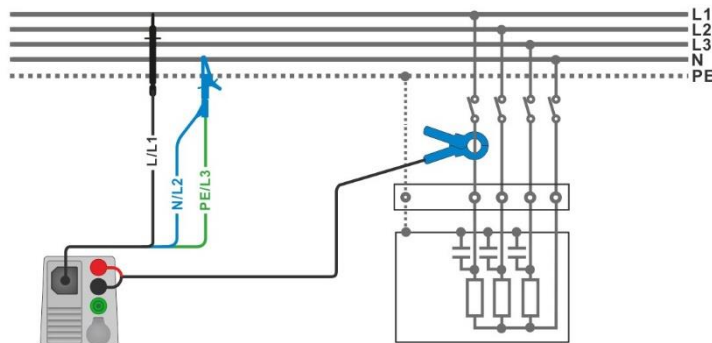

Figure 7.103: Harmonics measurement
- ▶ Connect 3-wire test lead and current clamp to the item to be tested, see **Figure 7.103**.